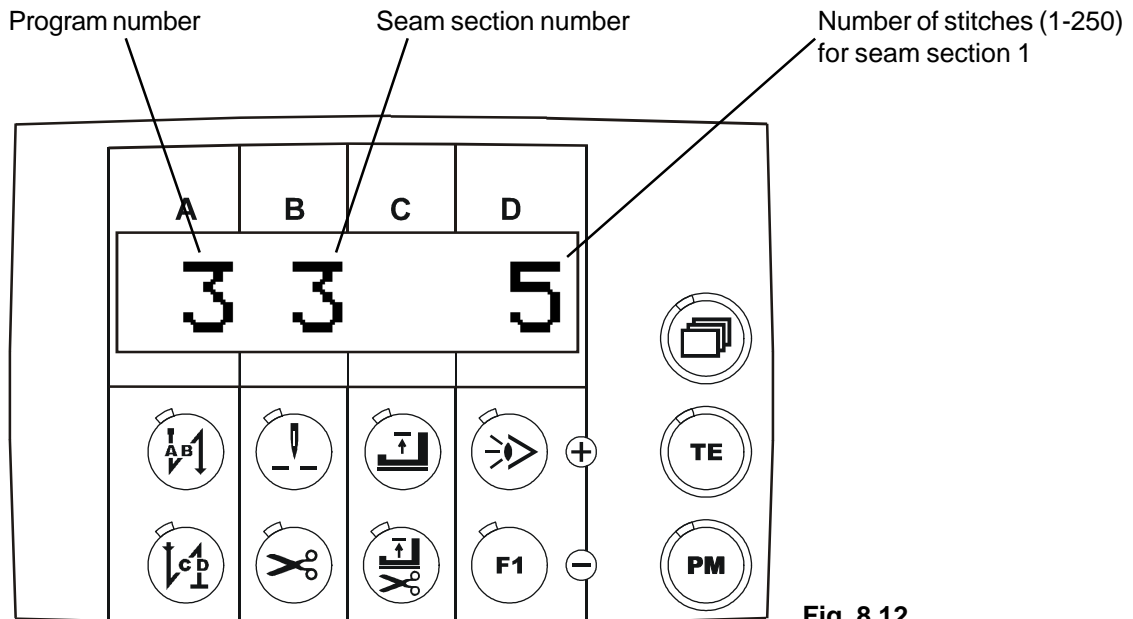

Fig. 8.12
8.2 Press the **paging key** until the display **Fig. 8.12** appears